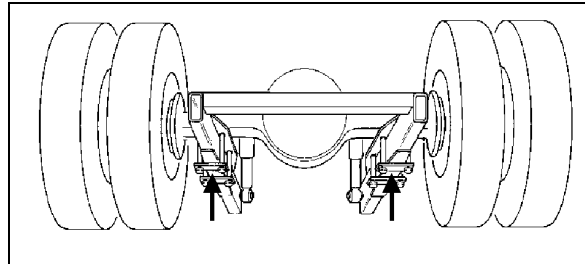

FIGURE 6: JACKING POINTS ON DRIVE AXLE 11005
8. Install jacks under the axle jacking points to support the axle weight (refer to figure 6).